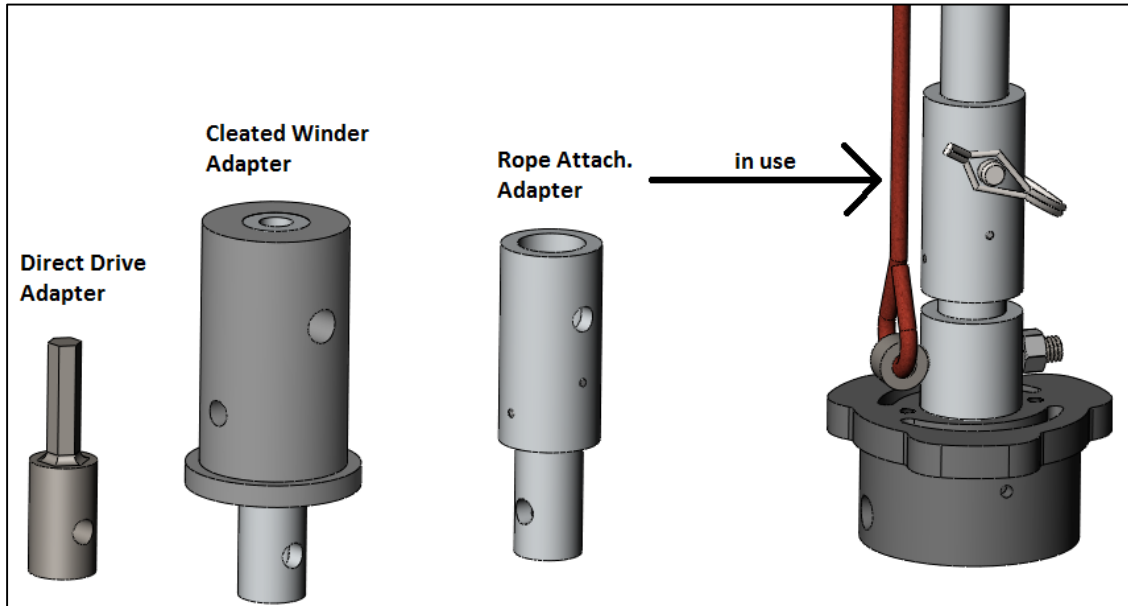

Figure 13: IDDO Hand Auger to SideWinder Adapters
13.1 Refer to 8507-0010, Sidewinder Operator's Guide for a full description of the use of the Sidewinder accessory. This guide is only intended to explain the adapters specific to the IDDO Hand Auger system (Figure 13).